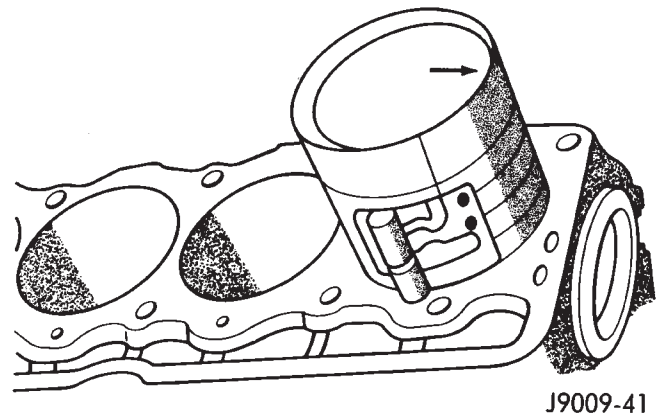

Fig. 18 Rod and Piston Assembly Installation
(3) Use a piston ring compressor to install the connecting rod and piston assemblies through the top of the cylinder bores (Fig. 18).
(4) Ensure the arrow on the piston top points to the front of the engine (Fig. 18).